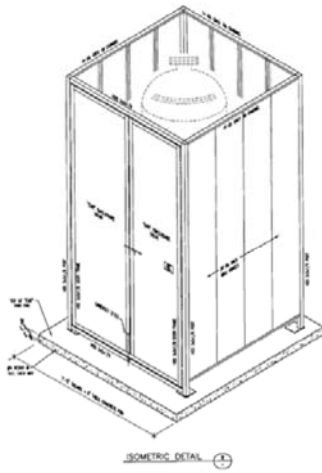

Figure 1
- If the equipment is to be located behind the existing building, a solid metal enclosure must house the unit and be painted to match the existing color of the building (**Fig. 1**).